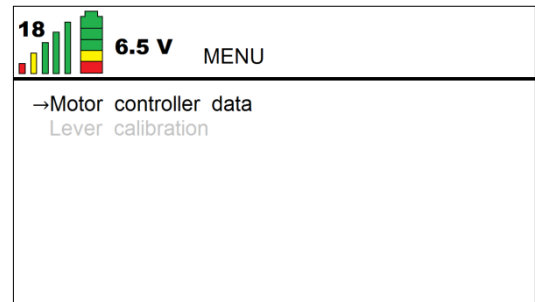

Figure: 22
- Turn on the remote control and establish contact with the Tracked Carrier. Activate the remote control menu by pressing the (✓) button (see figure 22).
The screenshot shows the same remote control display as Figure 22, but with the 'Motor Controller data' menu open. The display shows a list of parameters for both the left and right motor controllers.